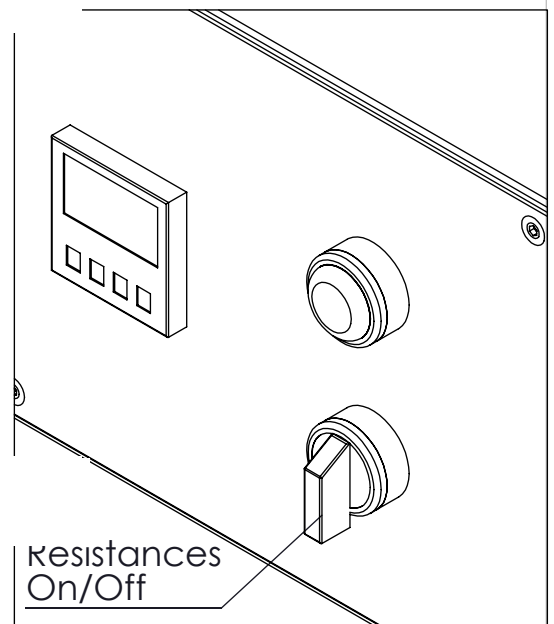

Figure 2
Turn the right and left hand plate resistor switches into position 1 (Figure 2). Depending on one's needs it is possible to use only one pressing plate: in this case rotate only the switch of the plate used. At that point resistances on press plate start to heating.(Figure 2)
- Air pressure.(Figure 2)